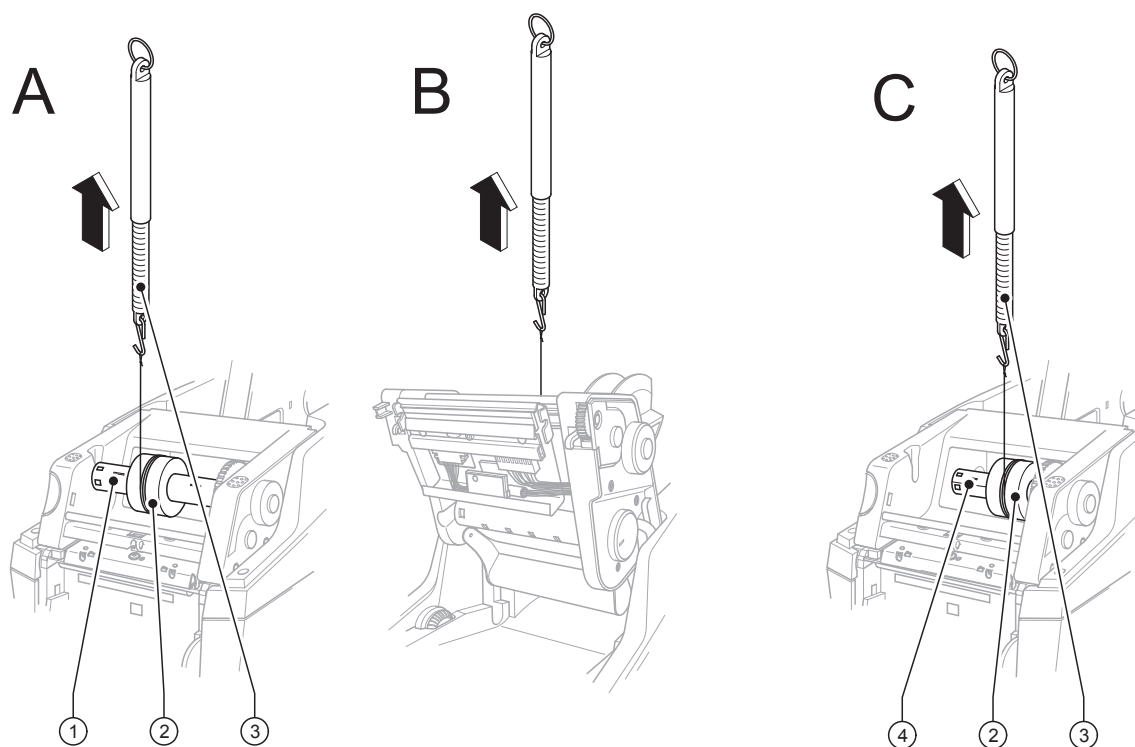

Fig. 13 Measuring the winding torques
1. Wind the cord several times round the test collar (▷ fig. 13 C on page 19) and mount it on the supply hub (4). The spring lugs of the hub must slot into the smaller slot in the test collar.
1. Wind the cord several times round the test collar (▷ fig. 13 A on page 19) and mount it on the rewind hub (1). The spring lugs of the hub must slot into the smaller slot in the test collar.
2. Attach a spring scale [10 N] (3) to the end of the cord, raise it vertically until the test collar starts to turn.
5. Disconnect the rewind hub (1) from the drive in order to measure the winding torque for the brake. Press the release button, hinge up the printhead assembly, repeat the measuring procedure (▷ fig. 13 B on page 19).